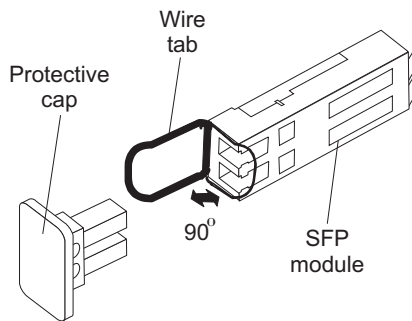

Figure 25. SFP module and protective cap
2. Remove the protective cap from the SFP module, as shown in Figure 25 on page 48. Save the protective cap for future use.
2. If necessary, remove the protective cap from the SFP module, as shown in Figure 25 on page 48. Save the protective cap for future use.